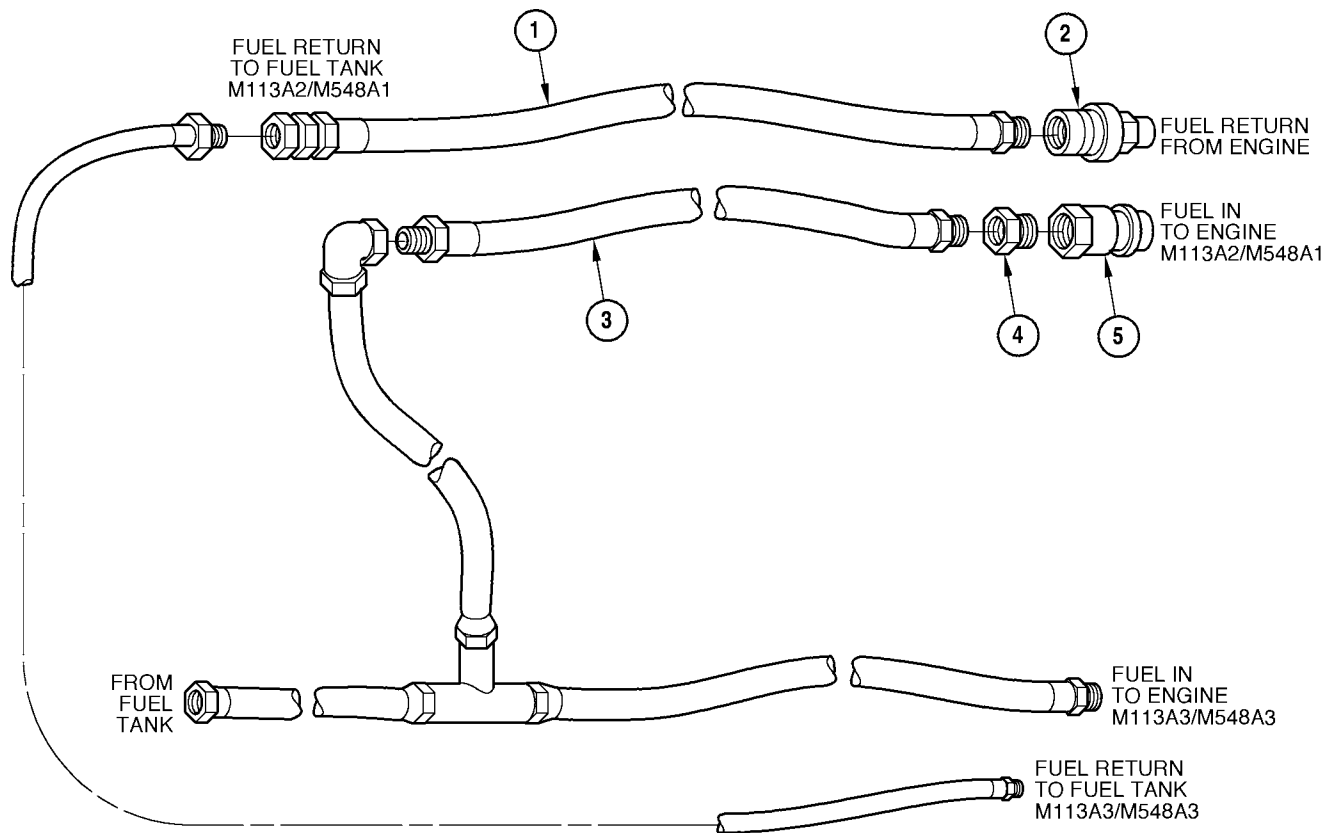

Figure 2-15. Fuel Line Adapter
1. Assemble hose assembly (1) and coupling half (2). See Figure 2-15.
2. Assemble hose assembly (3), pipe bushing (4), and coupling half (5). See Figure 2-15.